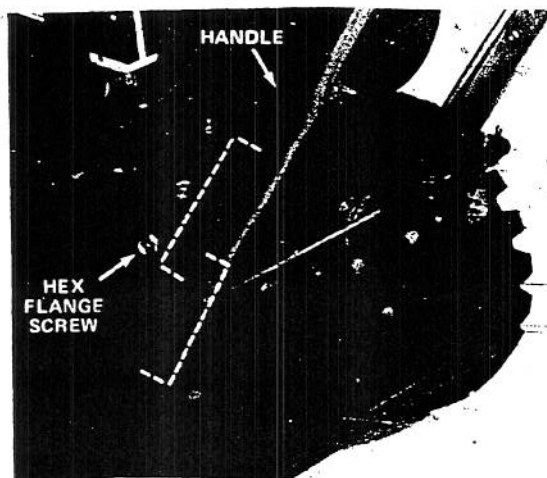

Figure 2
4. Reinstall two hex flange screws (held shipping brackets) through holes in traction unit side plates (Fig. 2). Next, slide handles to the inside of the side plates and line up all holes (Fig. 2).